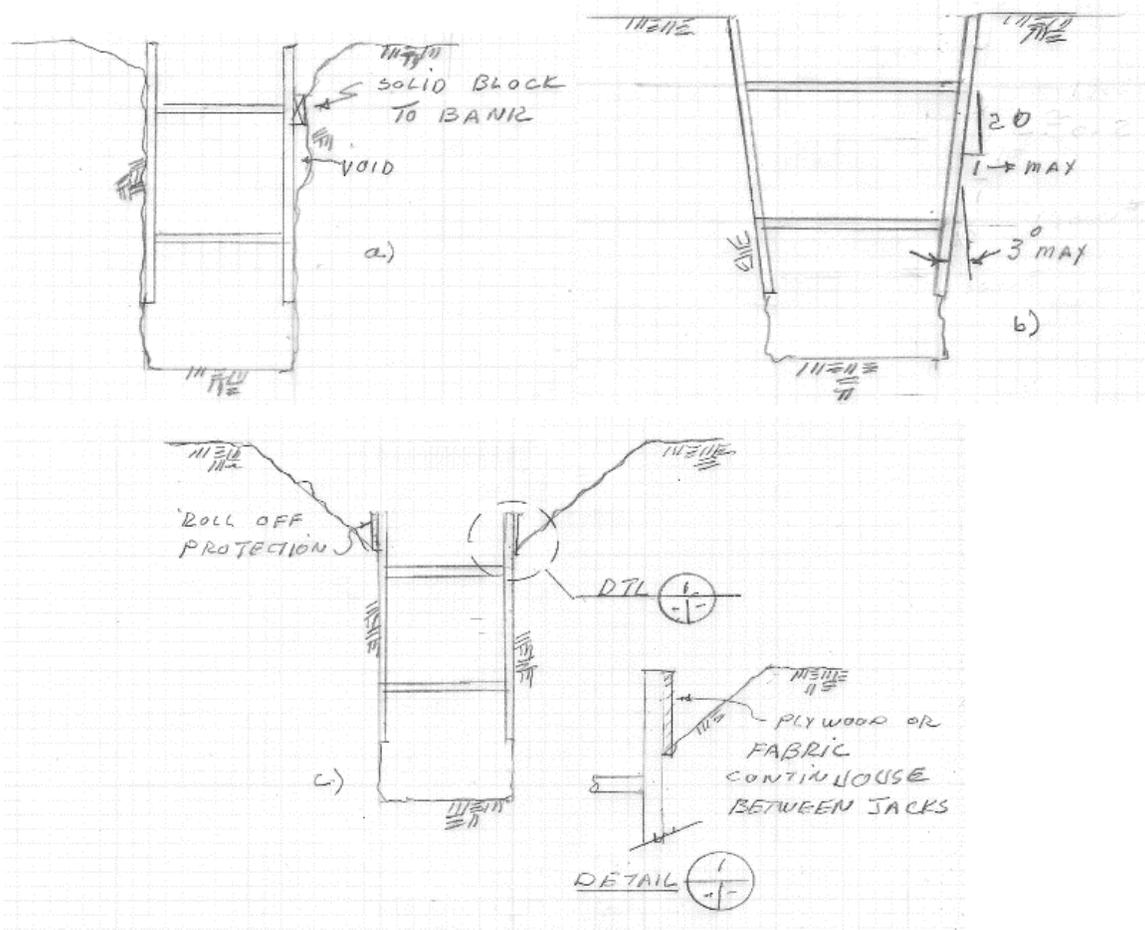

Figure 6: Trench safety issues
- Loose trench jacks in the trench - Jacks that are not pressurized in the trench are not setting up arching and preventing trench collapse. In this condition the jacks can also fall down on workers below them. Jacks should not leak at all. Pressure can change slightly up or down due to temperature changes or increase due to loading however it should never loosen up in the ditch. If jacks are left overnight they should be checked before entering the trench in the morning. Simply tap them with a hammer or bar of metal, they will sound loose if they are. Remove and replace jacks that bleed off. If the trench wall has voids where the cylinder hits the wall, use wood blocking to extend the connection to the soil, see **Figure 6 (a)**
- Non-vertical trench walls - Trench walls that are not vertical, an inverted A shape, the trench jack is not stable see **Figure 6 (b)**. Assuming a coefficient of friction of 0.1 between the soil and the aluminum rail and applying a factor of safety of 1.5 calculations indicate that the slope of the trench wall should not exceed 3 degrees or the jack will lift up and fail to provide an arching point.
- In trenches that are sloped above, extending the jack 18” above the hinge point does not provide roll off protection for workers below due to the fact that the jack is spaced. Place fabric or boards behind the jack rail to stop objects at the surface and bank ravel from falling on workers, see **Figure 6 (c)**